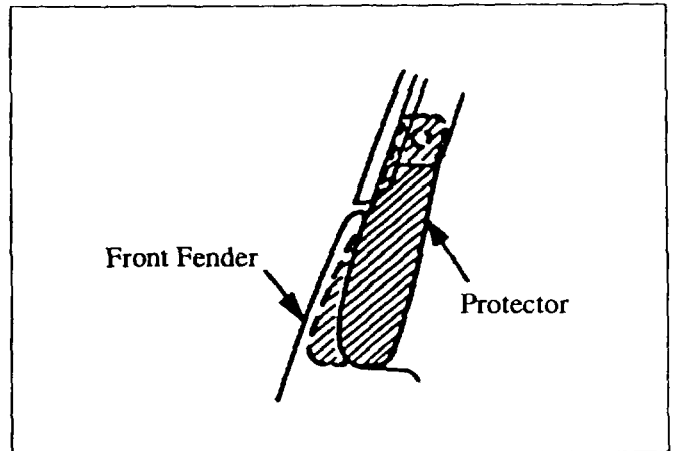

Figure 12: Base of "A" pillar
- Reinstall the mounting screw and insert the protector inside the front fender cavity. **Figure 12.**